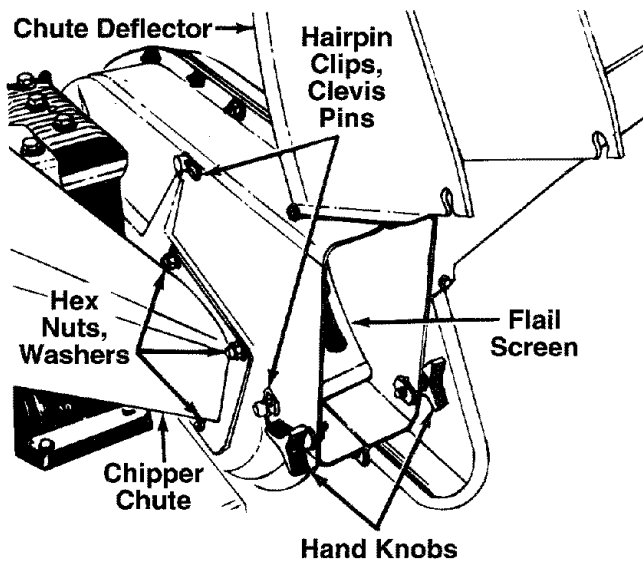

FIGURE 18.
- Remove two hairpin clips from the clevis pins which extend through the housing. Remove the clevis pins. Lift the flail screen from inside the housing. See figure 18.
**NOTE:** Be certain to reassemble the flail screen with the curved side down as shown in figure 18.
- Remove the chipper chute by removing three hex nuts and washers. A 1/2" wrench is required. See figure 18.
Make certain blades are reassembled with the sharp edge facing the direction shown in figure 18 (sharp edge is assembled toward the slotted opening in the impeller assembly). Torque bolts and nuts to 250-350 inch pounds.